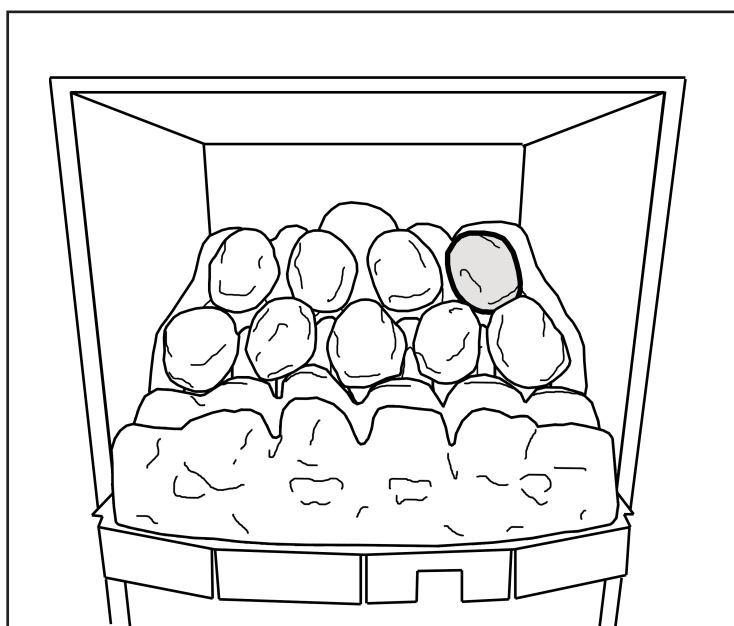

Figure 11. Third row "Coal I"
12. Hold coal 'I' upright with the arrow pointing to the top. Locate coal 'I' as shown in figure 11.